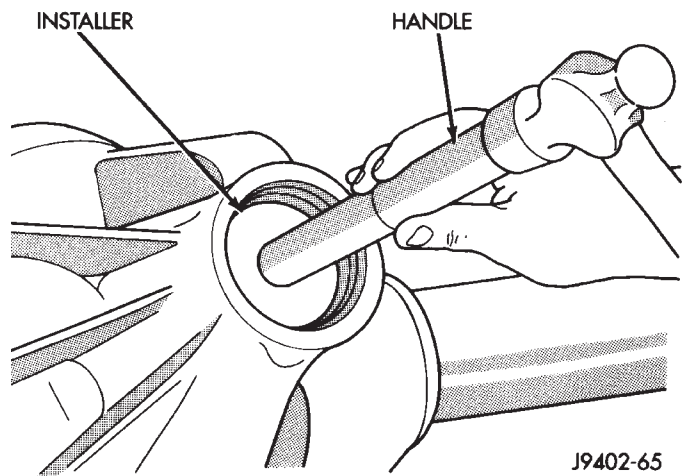

Fig. 31 Pinion Front Bearing Cup Installation
(4) Install the pinion front bearing cup (Fig. 31) with Installer D-130 and Handle C-4171.